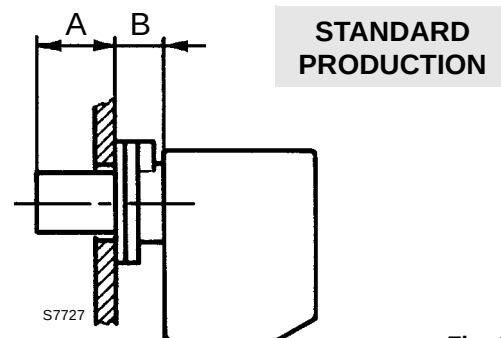

Fig. 1
- increase the distance B)(Fig. 1), should an eventual boiler projection render this necessary;